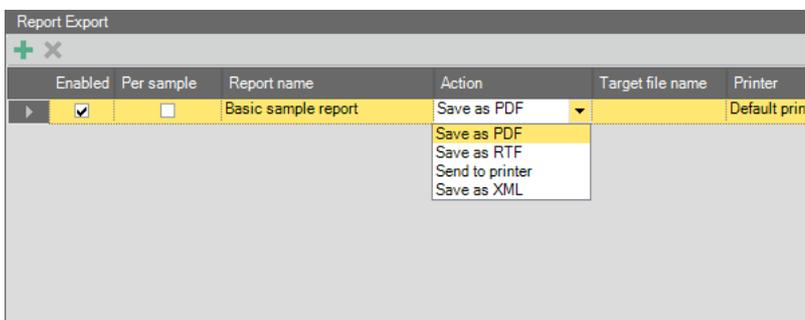

Figure 5-16. Action drop-down
5. For **Action**, expand the drop-down list and select the file format for the Report, see Figure 5-16.